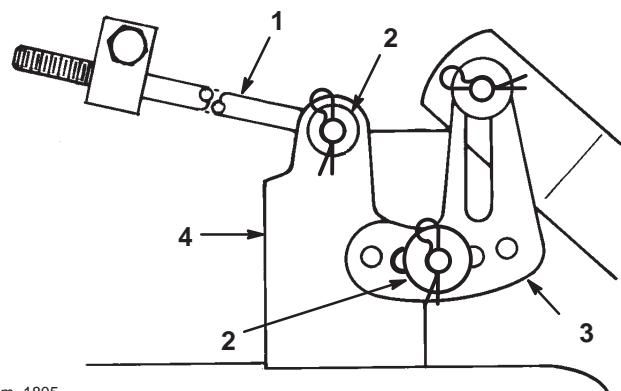

Figure 42
7. Slide the end of the long rod through the hole in the mower mount (Fig. 42). Install the washer and hairpin cotter to secure the rod in place. Repeat this step on the opposite side of the mower.
8. Mount the slotted mower leveling bracket onto the pin on the height-of-cut arm (Fig. 42). Install the washer and hairpin cotter to secure the mower. Repeat this step on the opposite side of the mower.